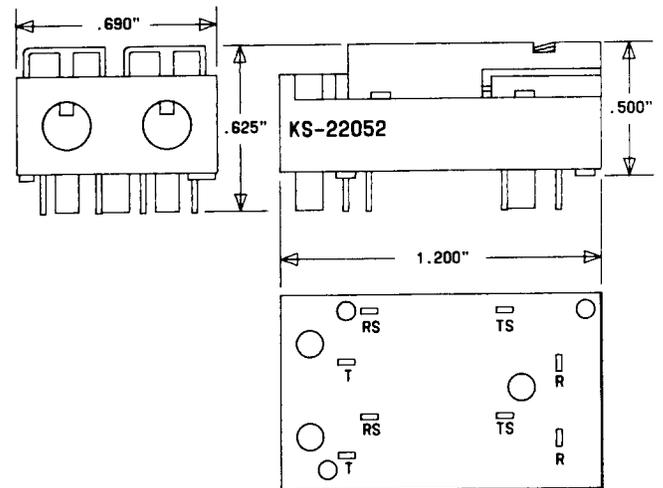

Fig. 13—KS-22052, L101, Dual Jack
- (d) **KS-22052, L101:** The KS-22052, L101, dual-jack (Fig. 13) contains two jacks each with tip, ring, and sleeve springs with break-contacts on the tip and ring springs plus a monitor function for checking line status without interrupting an active circuit.